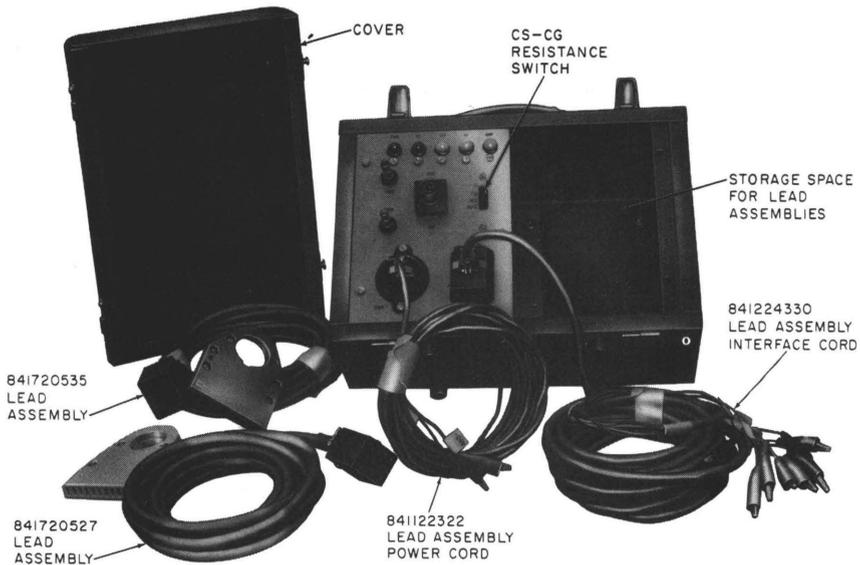

Fig. 1—142A Test Set Shown With Optional Lead Assemblies
- Revise Fig. 1 to show new slide switch for CS-CG resistance switch
2.01 The 142A test set (Fig. 1) is designed to permit field testing of various multilead interconnecting units (IUs) by simulating the inputs